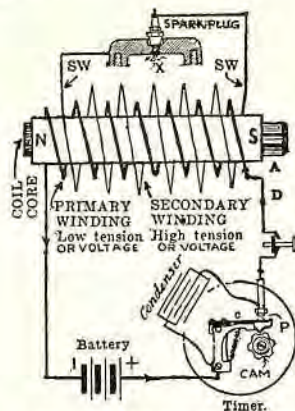
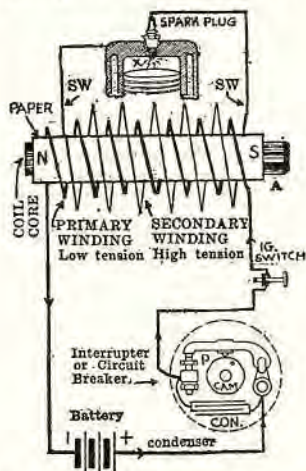

Fig. 3. A non-vibrating high-tension coil ignition system, using an open-circuit timer.
Fig. 4. A non-vibrating high-tension coil ignition system, using a closed circuit interrupter (also called contact-breaker).
The non-vibrator coil uses a mechanical interrupter and gives but one "single spark" (see Figs. 3, 4 and 5).
The open-circuit timer contact points (Fig. 3), used in connection with this system, are normally open. The cam is attached to a shaft, usually driven from the cam shaft, and must therefore be set so that the high point or lobe on the cam will raise the arm (C) so that it will make contact at the proper time. The spark does not occur at the spark plug when the contact is made, but when the contact is opened. This is therefore, a double operation, which causes "electrical and mechanical lag," and this is eliminated by the use of a contact arrangement which is normally closed. Thus the improved method (Fig. 4) is termed a "closed-circuit" system, and is the system in general use today.
Compare the timer in Fig. 3 with the interrupter in Fig. 4.
Note that in Fig. 3 the cam raises the arm (C) which makes contact at points (P), which are normally open. The strong spark does not occur when contact is made, but when it is opened.
Note that in Fig. 4 the contact points (P) are normally closed, and the high point on the cam raises the interrupter arm, thus opening the points (P) with one single operation. Thus the closed primary circuit of the coil is interrupted; hence its name "interrupter," or "contact breaker" as it is also often called.